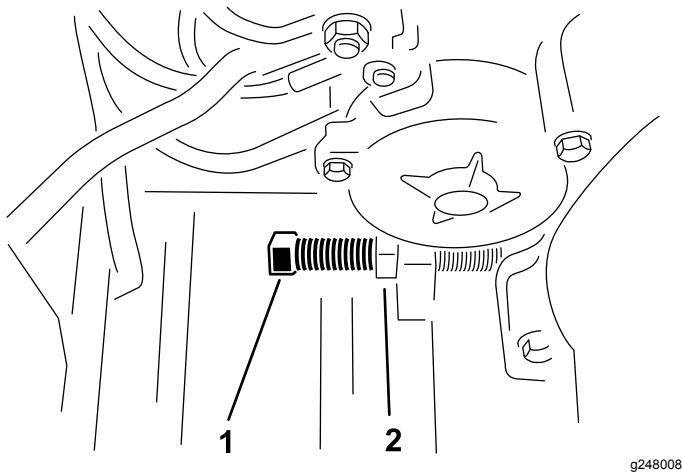

Figure 22
3. Loosen the jam nut and turn the belt adjusting bolt until you obtain the desired belt tension (Figure 22).
5. Adjust the engine so that it is parallel with frame. Continue tightening the engine mounting bolts (Figure 22).